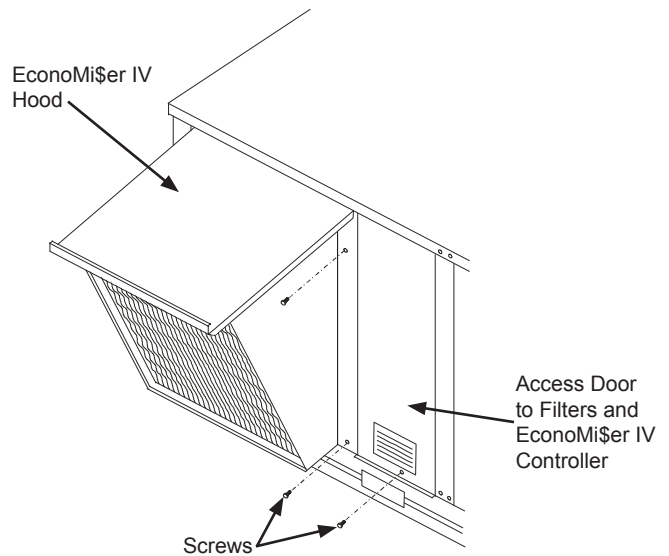

Fig. 11 - Hood and Access Door Installation
17. Install the EconoMi\$er IV hood over the EconoMi\$er IV. Use screws provided. (See Fig. 11 and 12.) Insert screw through right side flange of hood into EconoMi\$er IV flange.
21. Install access door next to hood. Screw bottom of door to HVAC unit. (See Fig. 11 and 12.) For the economizer for the extra large cabinet, install plastic inserts on right-hand vertical post and install long gasketed screws along the vertical edge. Use standard serrated screws along the bottom of the panel for all units.